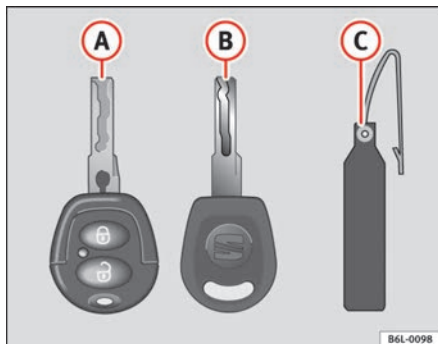

Fig. 46 Set of keys
- a key with a remote control ⇒ fig. 46 (A),
- one key without remote control (B),
- one key tab (C) with the key number.
Spare keys cannot be issued without the key number on the key tab ⇒ fig. 46 (B). Therefore: